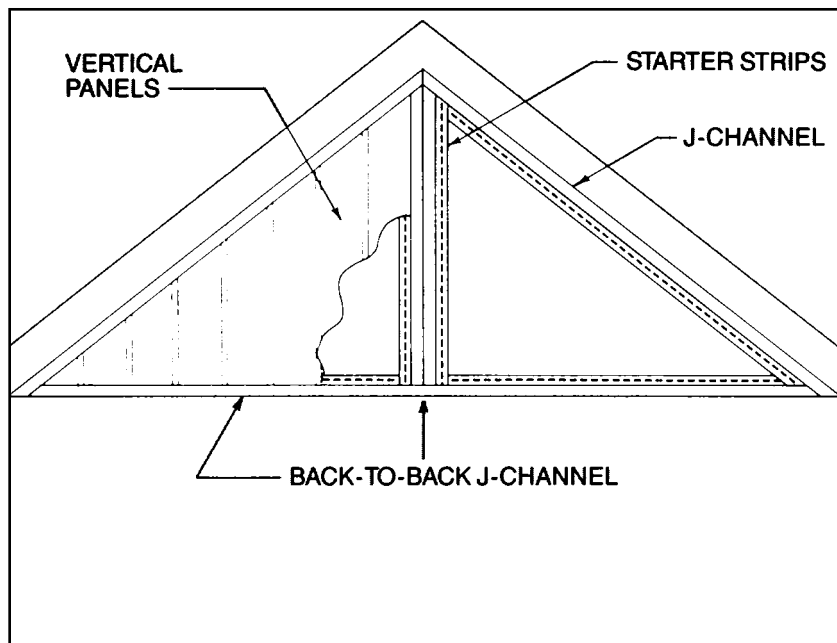

Fig 8.8
- A. Begin by fastening J-Channels along the rake edge of the roof and across the bottom horizontal transition (Fig. 8.8).
- B. Draw a vertical line in the center of the gable, using a level. Install two J-Channels back to back centered on that line. Then install a starter strip inside each vertical J-Channel (Fig. 8.8).